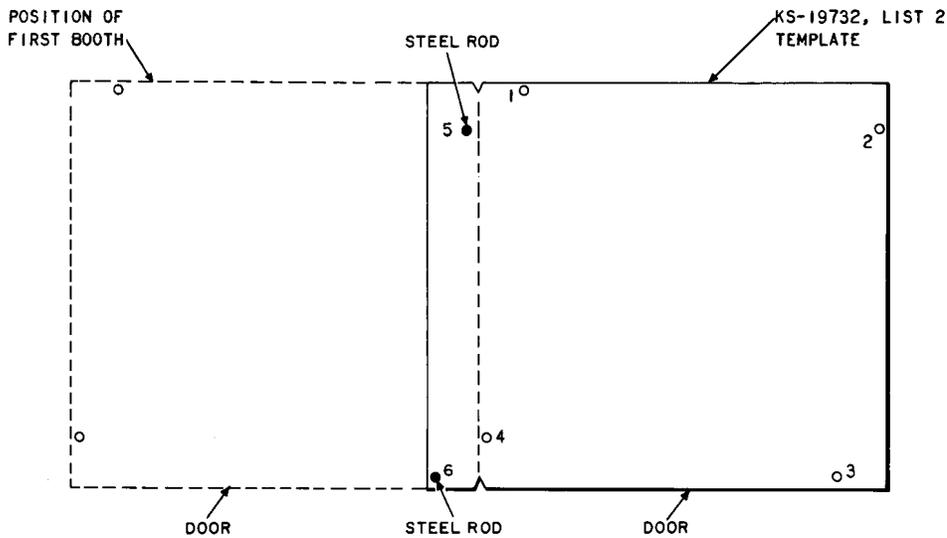

Fig. 12—Left to Right Layout for Drilling Mounting Holes
- 5.16** Use a chalk line and mark the floor where the front edge of the lineup will be (Fig. 12).
- (3) Move template to the right and align template holes 5 and 6 with previously drilled holes 3 and 4, respectively (Fig. 12). Insert the two steel rods in these holes.
- (4) Drill 1/4-inch holes at positions 1, 2, 3, and 4 to a depth of approximately 1-1/4 inches.
- (5) If a third booth is to be installed, move template to the right and align template holes 5 and 6 with previously drilled holes 2
and 3, respectively (Fig. 12). Insert the two steel rods in these holes.